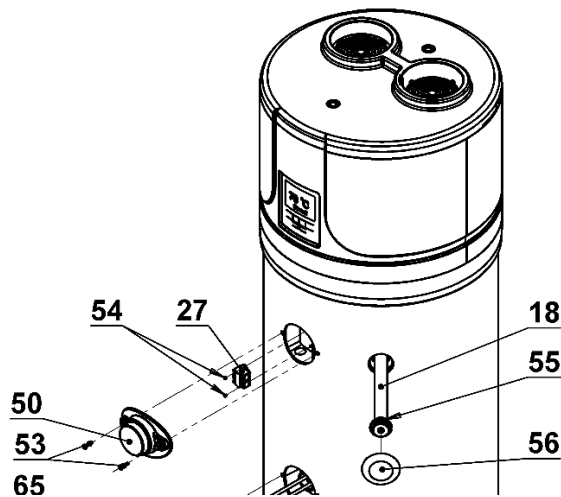

Fig. 14
10.1. Resetting of safety thermostat 27 (Fig.14)
- Remove the plastic cover 50 by undoing the appropriate locking screws 53 (Fig. 14);
- Manually reset the safety thermostat 27 (Fig. 14).
10.4. Magnesium anodes 18. (Fig.14)